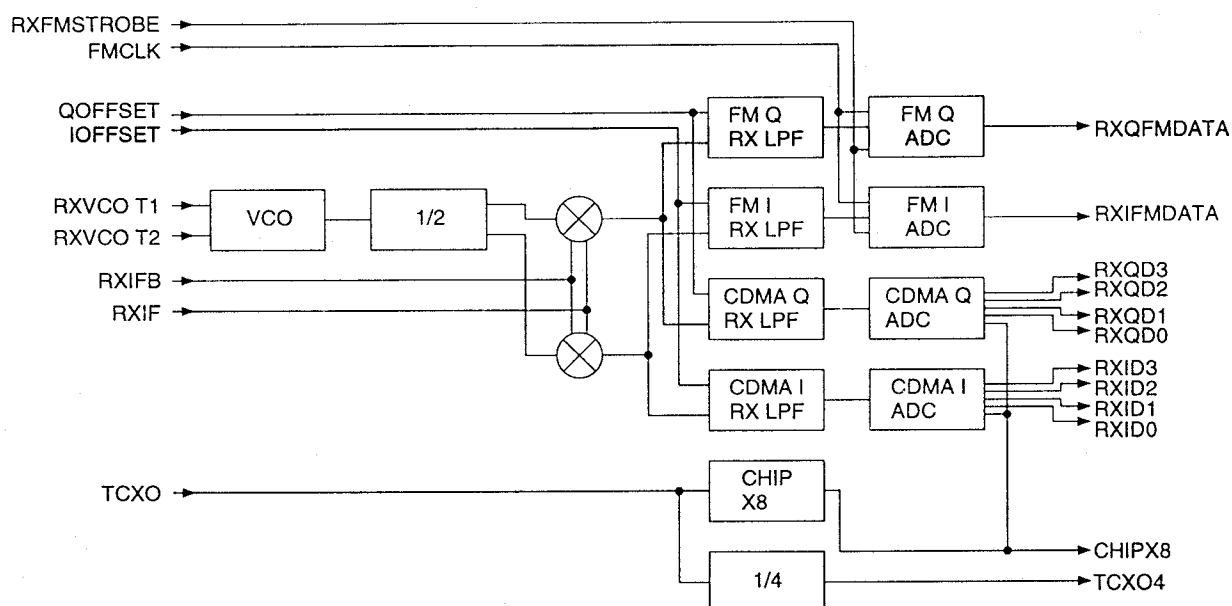

Fig. 7 Receive Section Block Diagram of CXA3003BR
This IC receive signal path (see Fig.7) is designed to accept a differential IF signal with CDMA spread spectrum modulation extending  $\pm 630$  kHz from the IF center frequency of 85.38 MHz. The incoming IF is reduced to I and Q baseband components by mixing with 85.38 MHz local oscillator (LO) signals in quadrature followed by low-pass filtering.